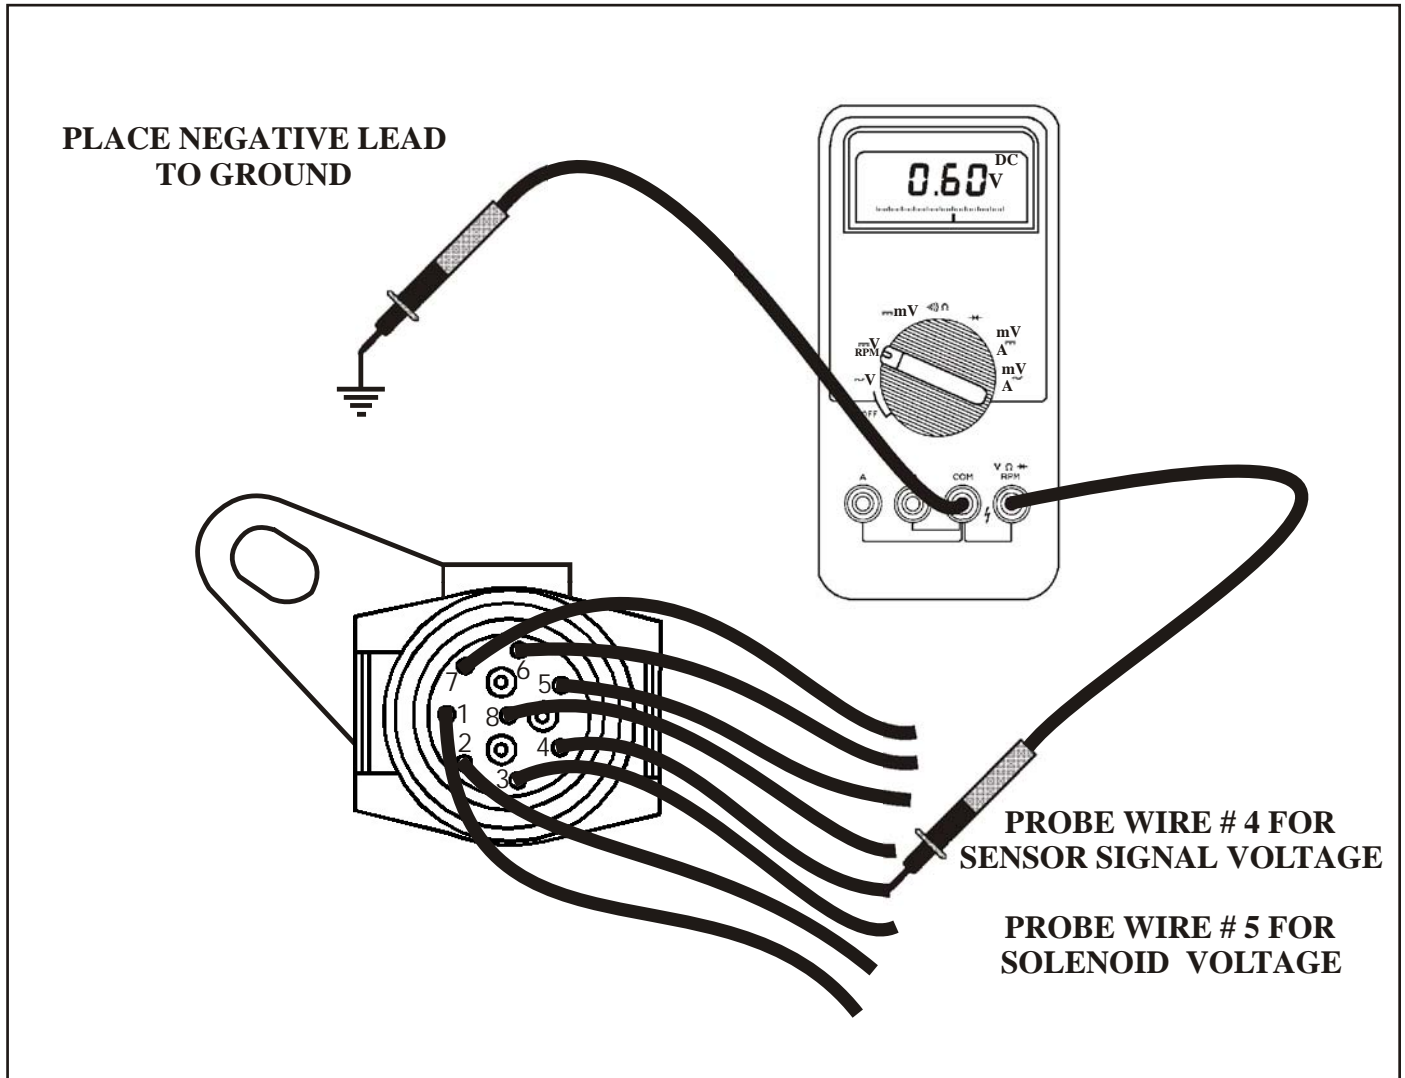

Figure 3
- (b) Once oriented to the case connector and vehicle harness connector, locate terminal number 4 and connect the vehicle harness back onto the case connector. With your DVOM set on DC volts, place the negative lead to a known good ground. Carefully backprobe into wire number 4 with the positive lead, as shown in Figure 3.
- (d) Maintain the ground lead to a known good ground and carefully backprobe into wire number 5 (Governor Pressure Solenoid) with the positive lead (See Figure 3). Again using the chart in Figure 4, compare the voltage values for the governor pressure solenoid, to the actual governor pressure indicated on the gauge.